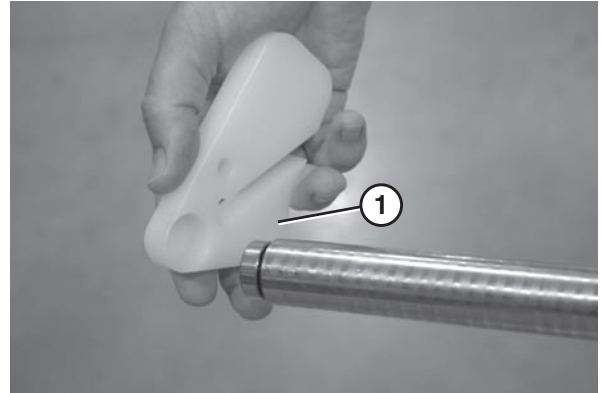

Figure 91
2. Remove the nose bar puck holders (**Figure 91, item 1**).